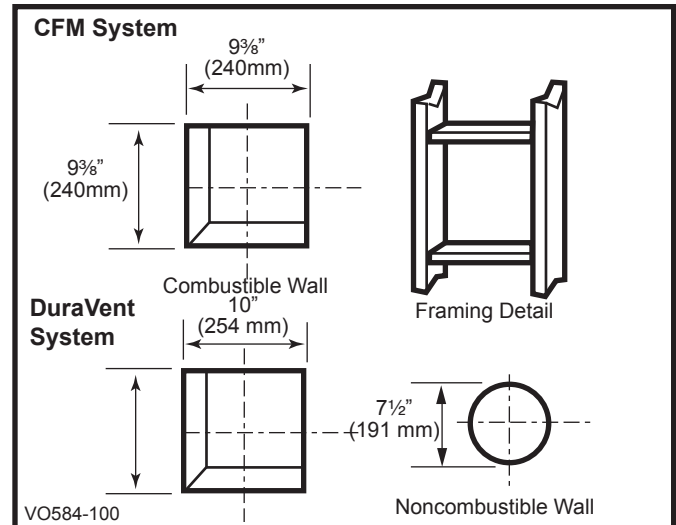
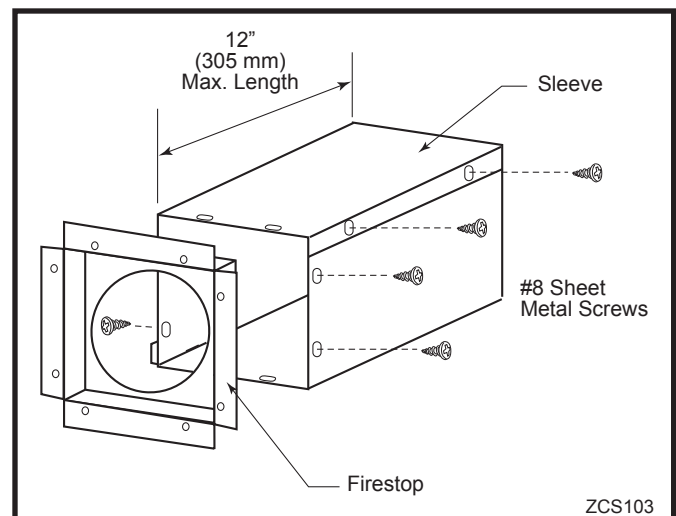

Fig. 22 Locate vent opening.
Fig. 23 Assemble the wall sleeve and firestop.
1. Locate the vent opening on the wall. Refer to Figure 4, Page 6, to determine the opening centerline. It may be necessary to first position the stove and measure to find the hole location. Depending on whether the wall is made of combustible materials, cut the opening to the size shown in Figure 23. Combustible wall openings must be framed as shown in Figure 22.
2. Measure the wall thickness and cut the wall sleeve sections to proper length (MAXIMUM 12"). Assemble the sleeve with the #8 sheet metal screws supplied. Attach the firestop plate to the sleeve end with the holes. (Fig. 23) **NOTE:** The wall sleeve is required in combustible walls only.
3. Install the Wall Firestop/Sleeve assembly into the wall cutout and fasten the firestop to the wall cutout framing members. (Fig. 23)